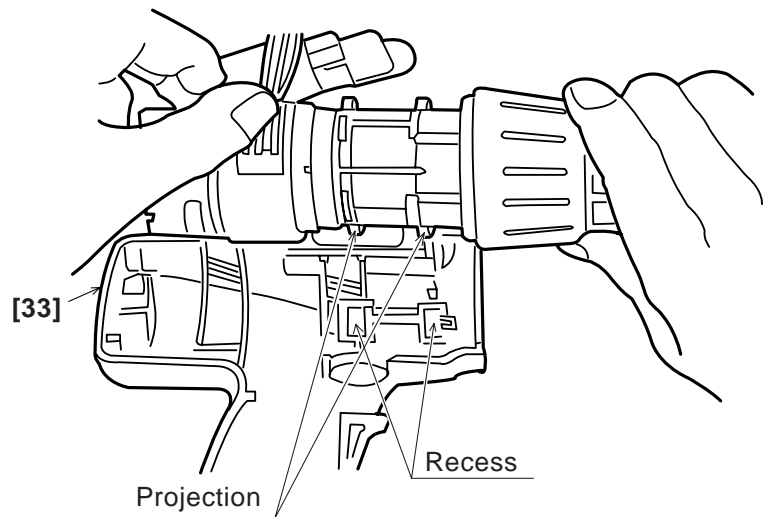

Fig. 11
(b) Install the reassembled state in step (3) into Housing (A) **[33]**. Note that the projections on the Front Case **[11]** and the Motor Spacer **[26]** are engaged in the recess in Housing (A) **[33]**. (See Fig. 11.)